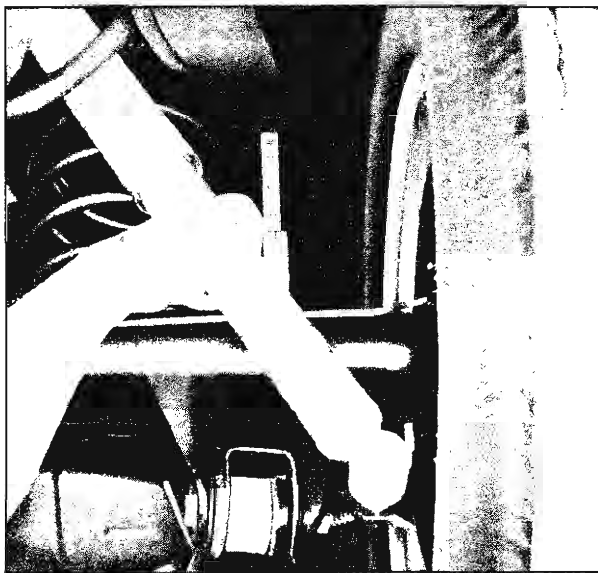

Fig. 4—Measuring Rear Riding Height (Chevrolet and Chevelle)
3. On Chevrolet and Chevelle models, measure riding height as the distance from the top of the axle housing to frame kick-up (fig. 4).